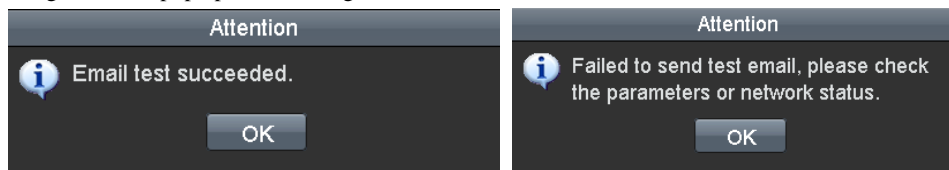

Figure 9.24 Email Testing Attention
7. You can click **Test** to test whether your Email settings work. The corresponding Attention message box will pop up. Refer to Figure 9.24.